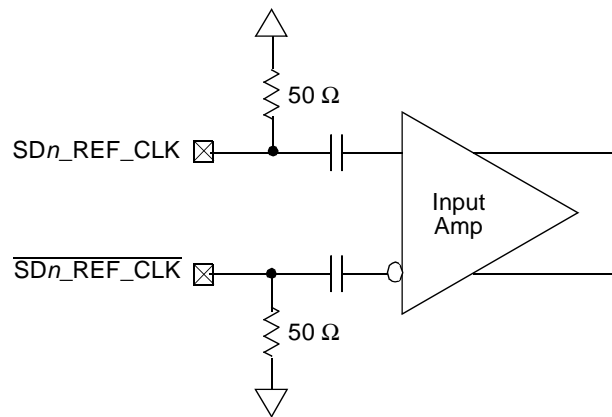

Figure 55. Receiver of SerDes Reference Clocks
Figure 55 shows a receiver reference diagram of the SerDes reference clocks.
- The $\text{SD}n_{\text{REF_CLK}}$ and $\overline{\text{SD}n_{\text{REF_CLK}}}$ are internally AC-coupled differential inputs as shown in Figure 55. Each differential clock input ($\text{SD}n_{\text{REF_CLK}}$ or $\overline{\text{SD}n_{\text{REF_CLK}}}$) has a 50Ω termination to $\text{SGND_SRDS}n$ (xc0revss) followed by on-chip AC-coupling.